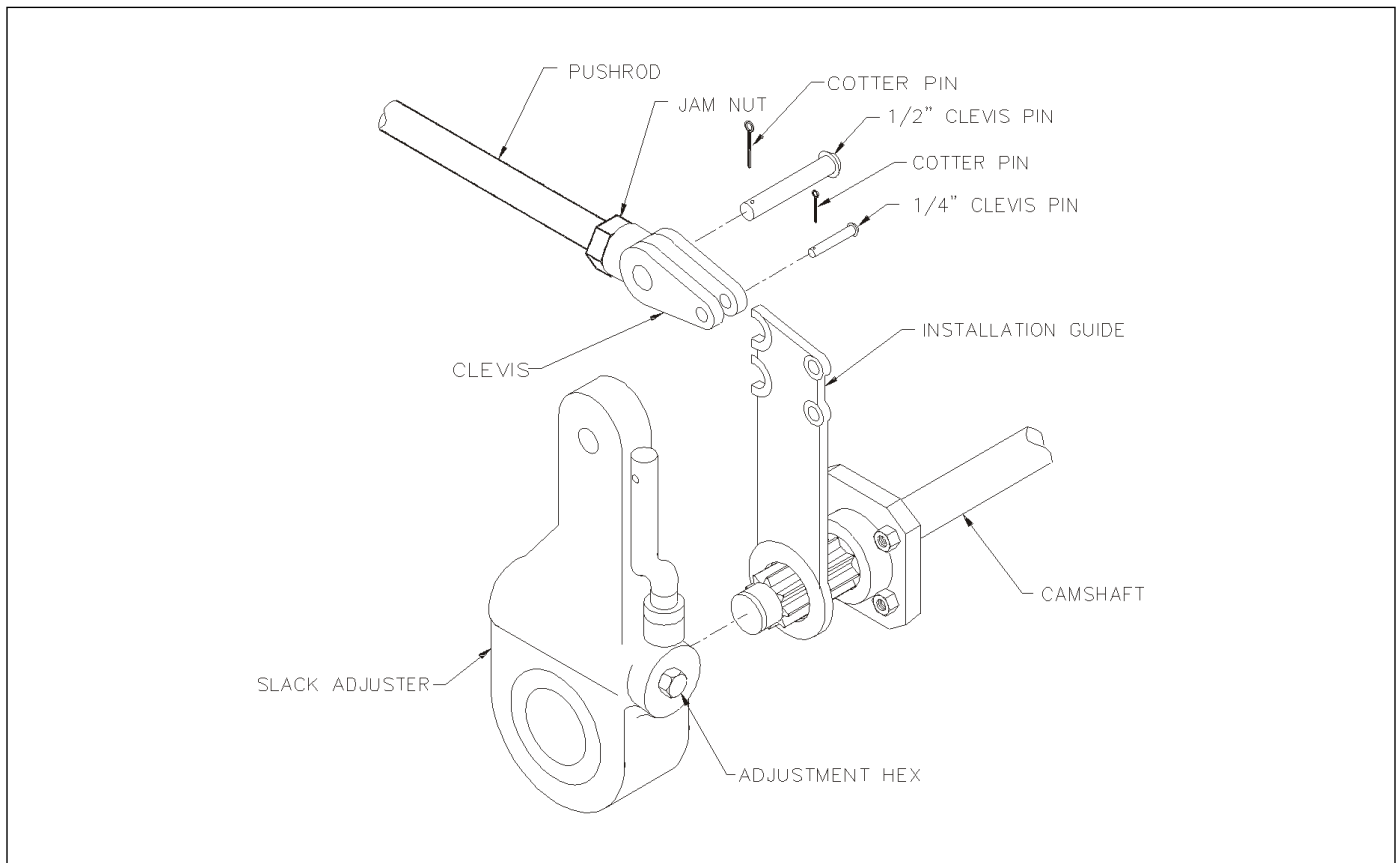

Figure 4-14: Slack Adjuster
4. Disconnect the slack adjuster from the connecting rod by removing the clevis pin (See Figure 4-14.)
3. Remount the brake unit on the axle brackets and reconnect the air service hoses and the slack adjuster connecting rod (See Figure 4-14.)
Operational Check (See Figure 4-14)
1. Chock wheels to prevent vehicle from rolling. Release spring and service brake. Air chamber push rod must be fully released (**See Figure 4-14**).